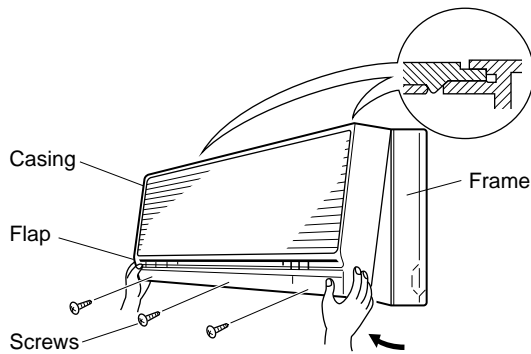

Fig. 3-34
- (4) Set the flap in the horizontal position. (Fig. 3-34)
- (5) Remove the 3 screws. (Fig. 3-34)
- (6) Remove the casing. (Fig. 3-34)
When replacing the casing, be careful not to crush the lead wires between the casing and the frame. (Fig. 3-34)